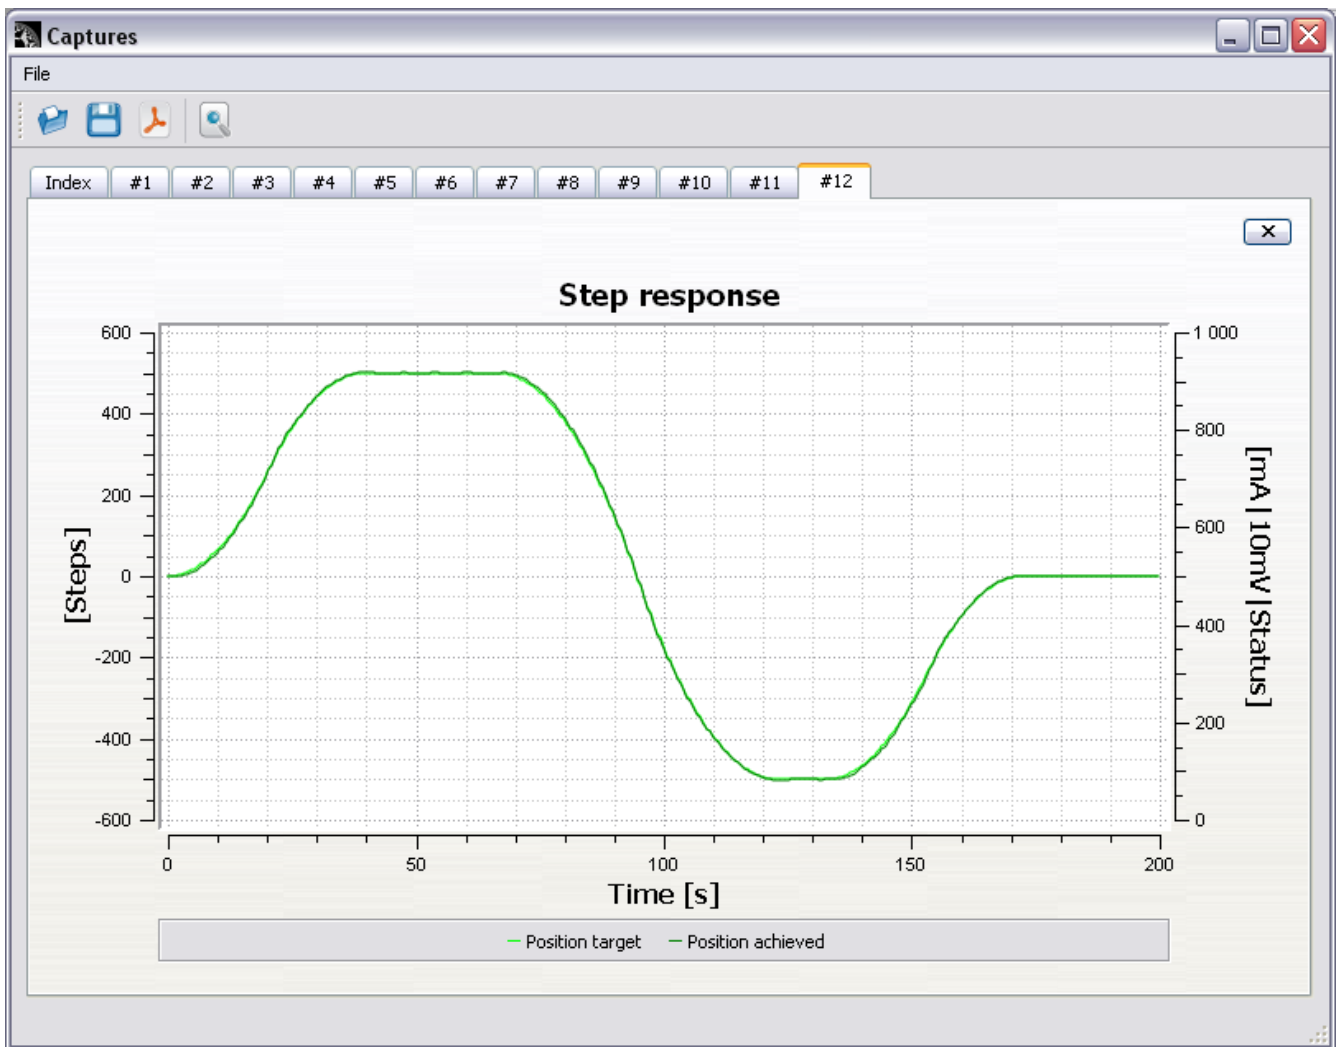

Figure 12: Correct position PIV-controller values
- If you are getting satisfactory results with small overshooting, like in Figure 12, you have successfully configured PIV controller!